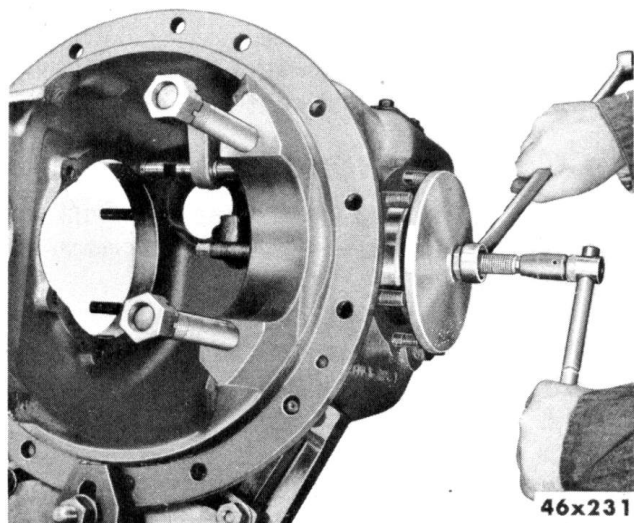

Fig. 121—Removing Differential Cross Shaft Cap Bearing Cup—Tool DD-967
- (4) If necessary to replace bearing cups, remove cross shaft bearing cover (bevel gear side). Wire shim pack together to keep intact to facilitate adjustment when reassembling.
- (5) Remove cups with suitable puller, as shown in Figure 121.